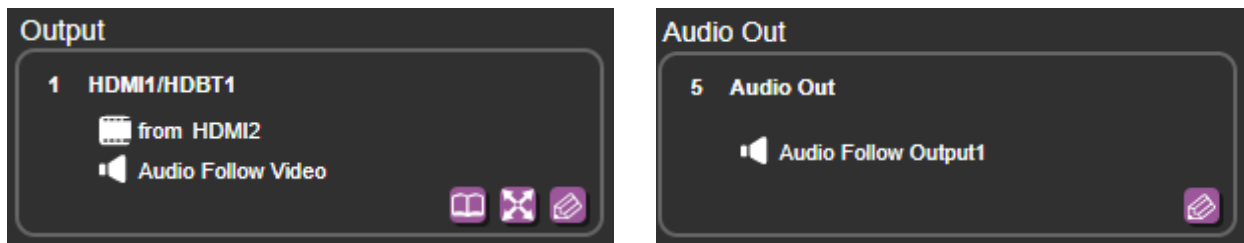

Figure 15: Switching Page – Output Buttons
2. Click an Output button to which the input is to be routed (Figure 15).